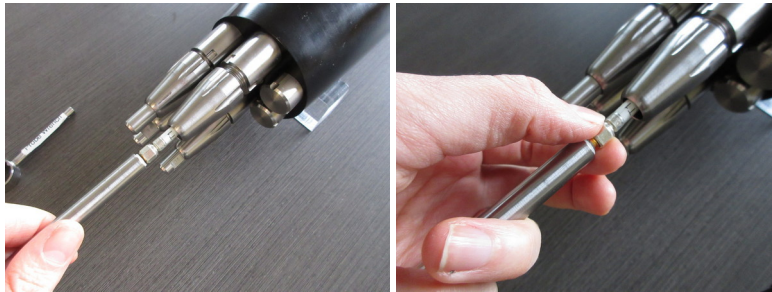

Figure 11: Removing the test probe. Note the clear heat shrink tubing around the SMC connector.
2. Remove the test probe by pulling on it until the label on its SMC cable is visible (Figure 11). **A gentle pull is all that is required.** Pulling with higher force or a distance beyond the label could cause damage to the cable.